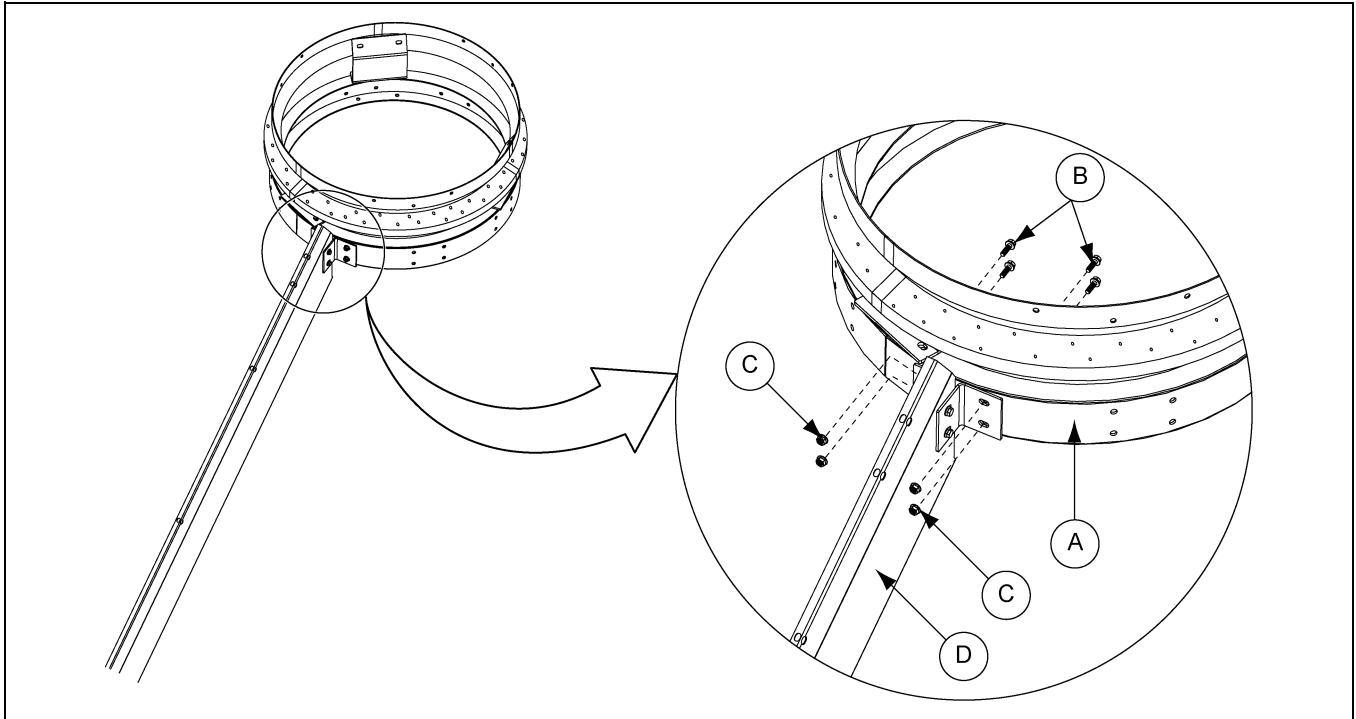

Figure 4K Install the Rafter Assembly to the Peak Ring Weldment
1. Attach the rafter assembly (D) to the peak ring weldment (A) and align with the proper holes as shown in Figure 4K.
2. Install the flange bolts (B) and flange nuts (C) to securing the rafter assembly (D) to the peak ring weldment (A).